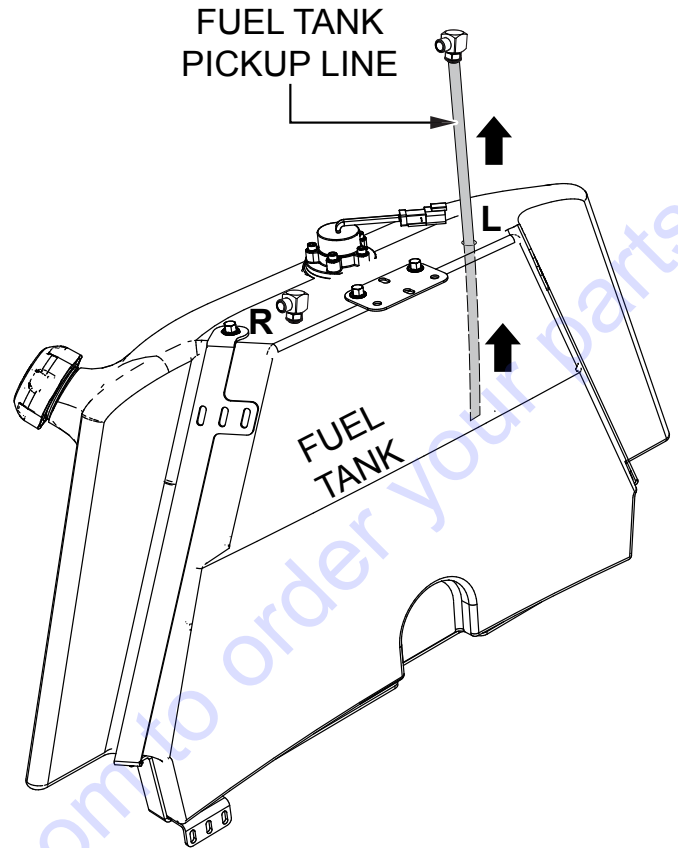

Figure 4. Fuel Tank Pickup Line Removal (LEFT)
3. Remove the **LEFT** fuel tank pickup line from the fuel tank (Figure 4).